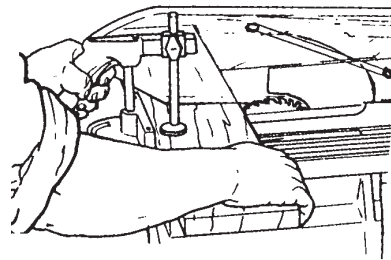

Figure C-1
4. Squeeze the safety grip and turn on the Mark V. Set to the correct speed, then guide the stock past the blade. Use your free hand to help keep the stock against the miter gauge face. See Figure C-1.